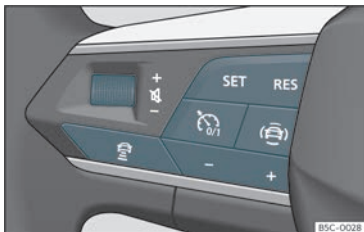

Fig. 161 On the multifunction steering wheel: buttons to operate the ACC
Your vehicle has ACC if it has a configuration menu in the infotainment system»» page 88 and if it has the ACC function buttons on the multifunction steering wheel»» Fig. 161.
- To start regulation, press the button **SET** >>> **Fig. 161**.
To program the speed, press the + or - >>> **Fig. 161** buttons to the desired speed. The speed is adjusted at intervals of 10 km/h (5 mph).
- Press the button  and then the button + or - >>> **Fig. 161**.